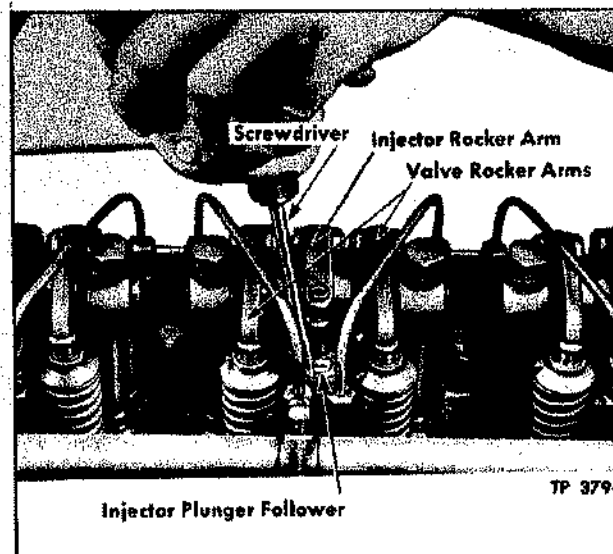

Figure 26—Cutting Out an Injector
1. Run engine at idling speed and cut out each injector in turn to determine faulty cylinder. Injector is cut out by holding follower down with screwdriver, as illustrated in figure 26, while engine is running.